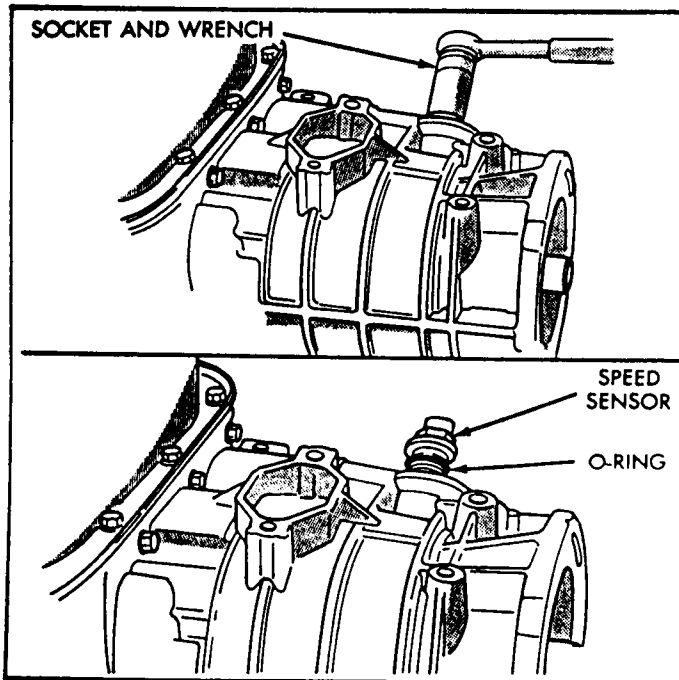

Figure 48
80. Install output shaft speed sensor into the overdrive housing, as shown Figure 48, with new "O" ring, and torque the sensor to 20 ft.lbs.